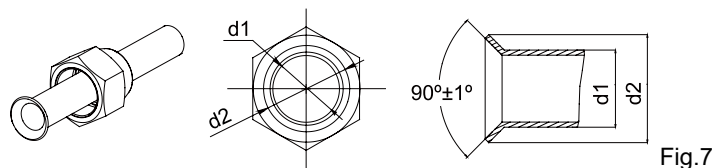

Fig.7
- (1). Cut the connection pipe with the pipe cutter and remove the burrs.
- (2). Hold the pipe downward to prevent cuttings from entering the pipe.
- (3). Remove the flare nuts at the stop valve of the outdoor unit and inside the accessory bag of the indoor unit, then insert them to the connection pipe, after that, flare the connection pipe with a flaring tool
- (4). Check if the flare part is spread evenly and there are no cracks (see Fig.7)